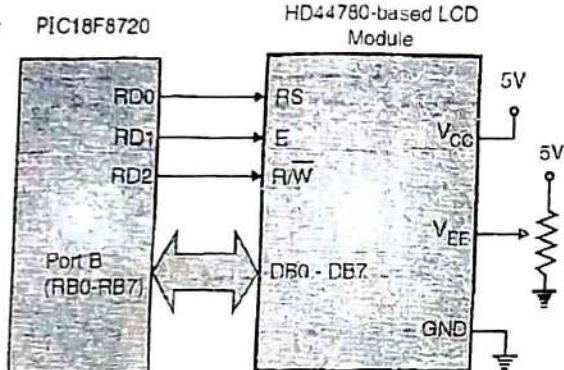

Fig. 7.5.2: LCD interface example (8-bit bus)
- The Hitachi HD44780 is one of the most popular LCD display controllers. The Fig. 7.5.2 explains the interfacing of this LCD with the PIC18F8720.